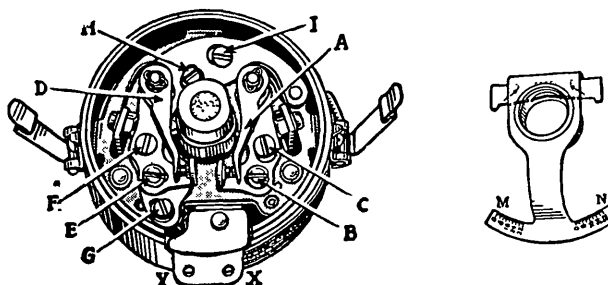

Fig 2
**To synchronize breaker arm on 8 cylinder distributors with 4 lobe cam.**—One set of contact points is stationary and the other set is movable. The stationary set is adjusted first and synchronizing is completed by adjustment to the movable set of points. To set contact opening of arm (A), Fig. 2, turn distributor shaft in its direction of rotation which is clockwise viewed from top until rubbing block of breaker arm (A), is on lobe of cam. Loosen screw (B), and turn screw (C) to get contact opening which should be from .018" to .024" and preferably .022". Tighten screw (B).
*Two types of 8 cylinder distributors were used on Auburn cars. The first type has an 8 lobe cam with two sets of contact points in series opening simultaneously. The second or latest type (Fig 2) uses a 4 lobe cam with two sets of contact points in parallel.*